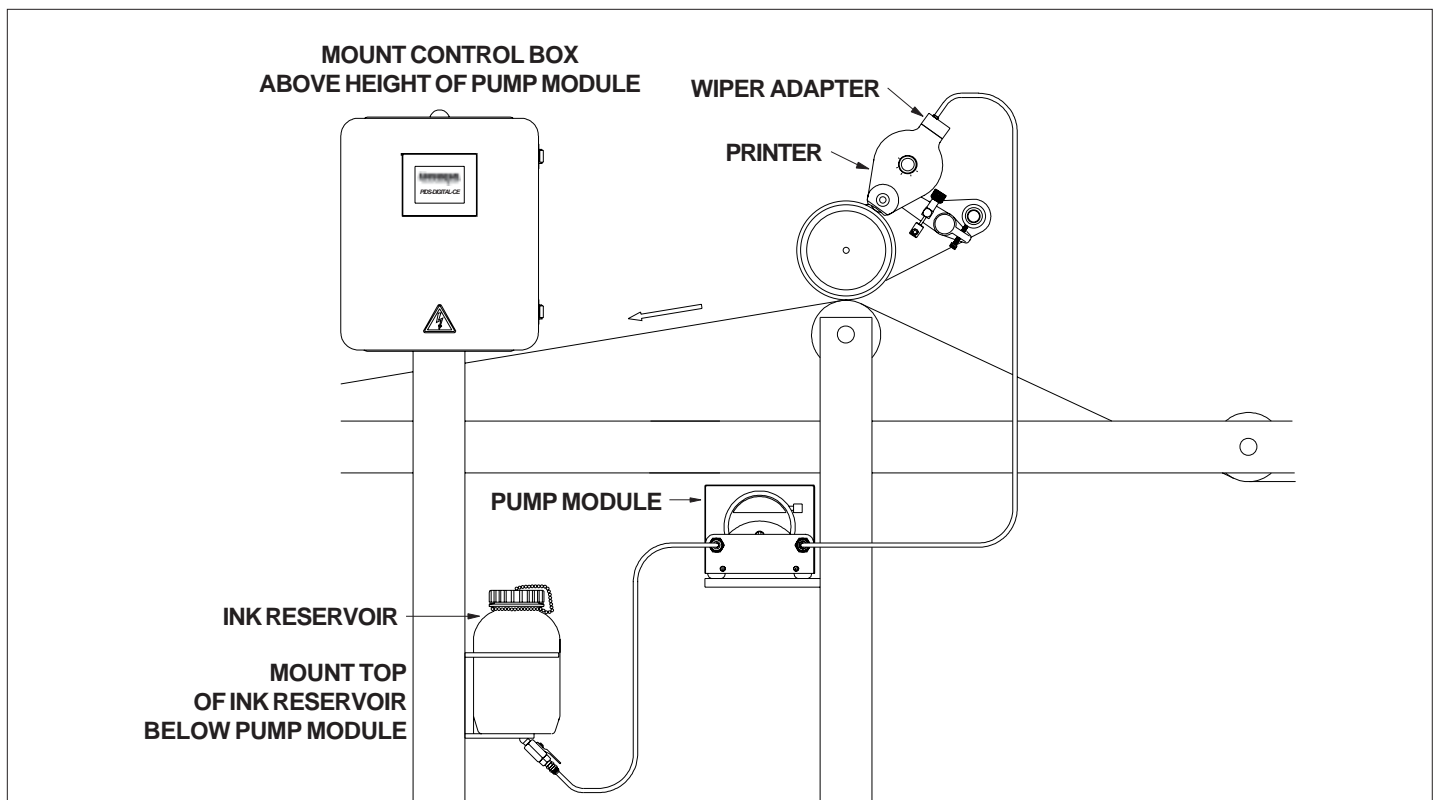

FIGURE 7
- 1 - Mount the Ink Reservoir on a vertical surface with the top of the Ink Reservoir slightly below the bottom of the Pump Module and within close proximity of the same as shown in (Figure 7).